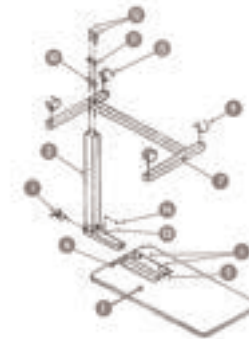

Figure 2
- While holding Adjustment Lever, insert short end of Column Assembly (2) into Mounting Bracket (5) and insert the two Domed Phillips Head Bolts and Lock Washers (6) but do not tighten. (Fig. 2)
- Take Base (7) with caster holes facing away from Table Top and place end with mounting holes on Column Assembly (2). Insert two large hex bolts (12) through Bolt Plate (11), through Bolt Sleeves (10), through Column Assembly (2). Insert two large hex bolts (12) through Bolt Plate (11), through Bolt Sleeves (10), through the Base (7) and into Column Assembly (2). Tighten with wrench. (Fig 2)